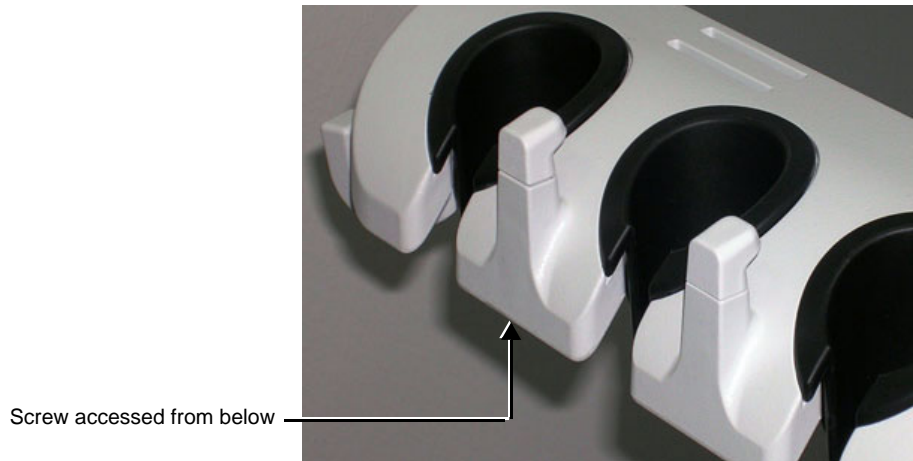

Figure 8-105 Probe Cable Hooks
- 1) From below the Probe Shelf, remove the Probe Cable Hook retaining screw (see Figure 8-105 on page 8-92).